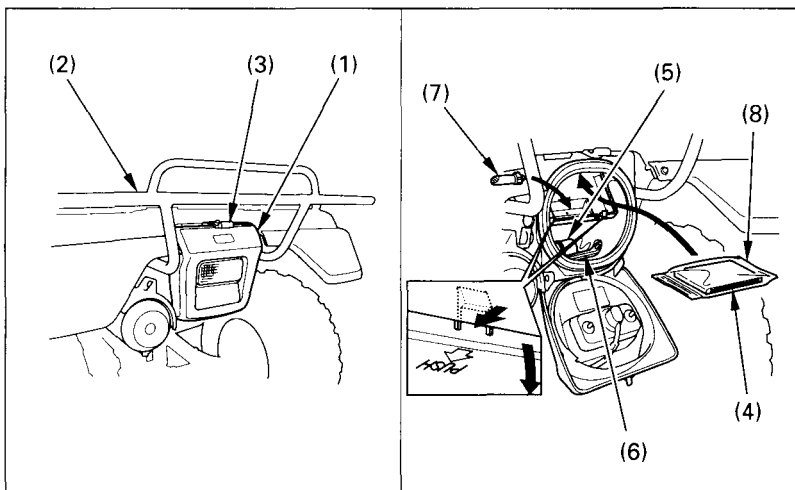

Fig. 2-32 (1) Storage compartment
The storage compartment (1) (Fig. 2-32) is below the rear cargo rack (2). To open the compartment, unhook the rubber strap (3). The owner's manual (4), tool kit (5), gear change tool (6), and air pressure gauge (7) should be stored in the storage compartment (1).